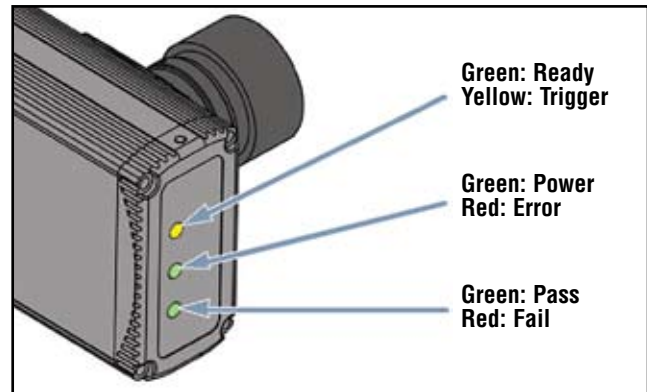

Figure 3-1. *PresencePLUS* P4 LEDs
6. Power up the hardware and verify that the Red Error LED turns OFF. During power-up, all the Sensor LEDs turn ON for 15 to 20 seconds (see Figure 3-1).